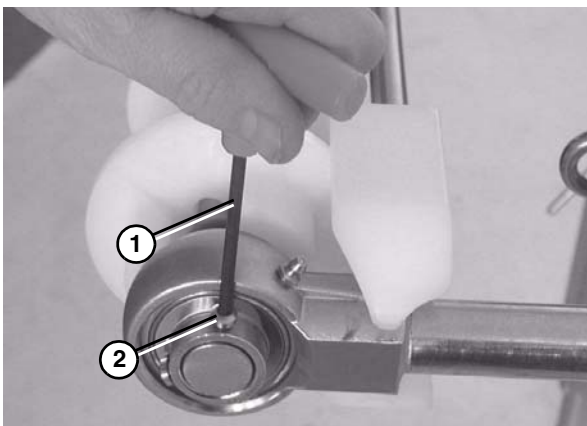

Figure 70
4. Use a hex wrench (**Figure 70, item 1**) to loosen the bearing shaft assembly fasteners (**Figure 70, item 2**).